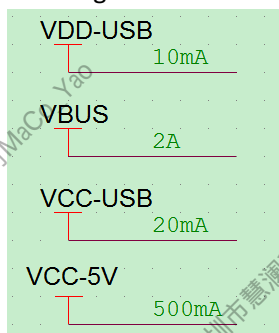

Figure 2-35 The Operating Voltage and Current Label of USB
- Mark the operating voltage and the maximum operating current of USB power in the schematic diagram to facilitate PCB layout design. As shown in Figure 2-35.